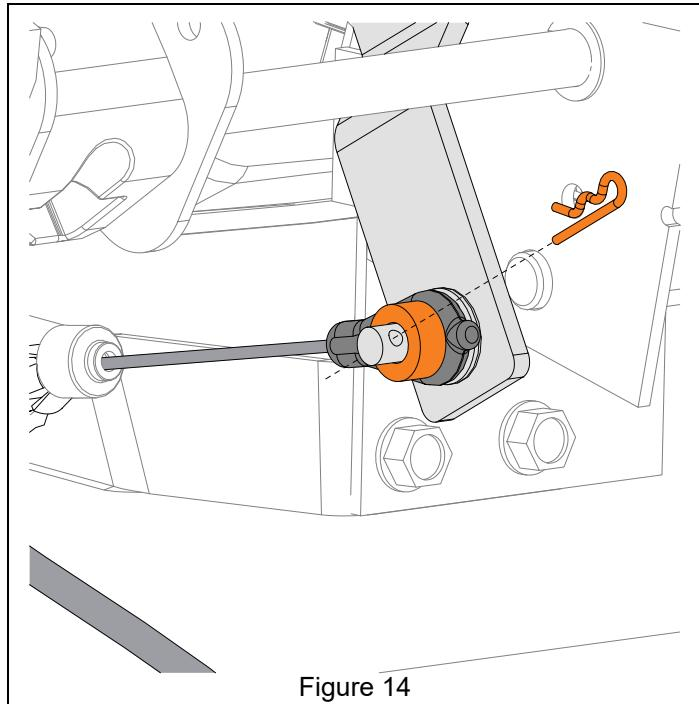

Figure 14
15. Remove sleeve bushing and hairpin from deflector arm and reinstall cable eyelet onto deflector arm pin. Reinstall sleeve bushing and hairpin. See Figure 14.